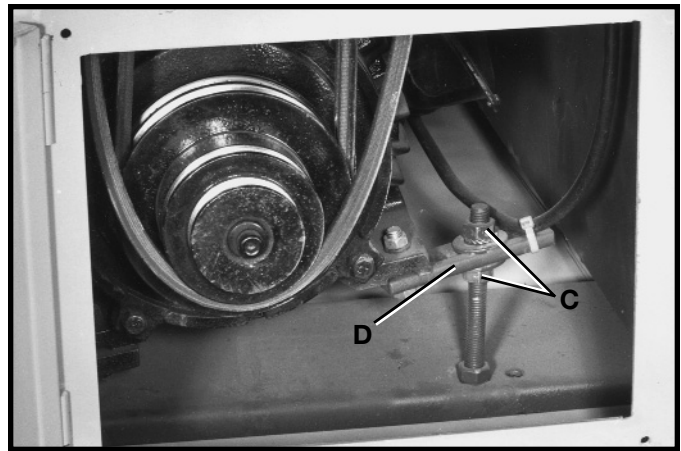

Fig. 29
- Loosen and tighten two adjustment nuts (C) Fig. 29, to move motor plate up or down as necessary to increase or decrease drive belt tension. Tighten both adjustment nuts (C) against plate (D) Fig. 29, after adjustment is made.